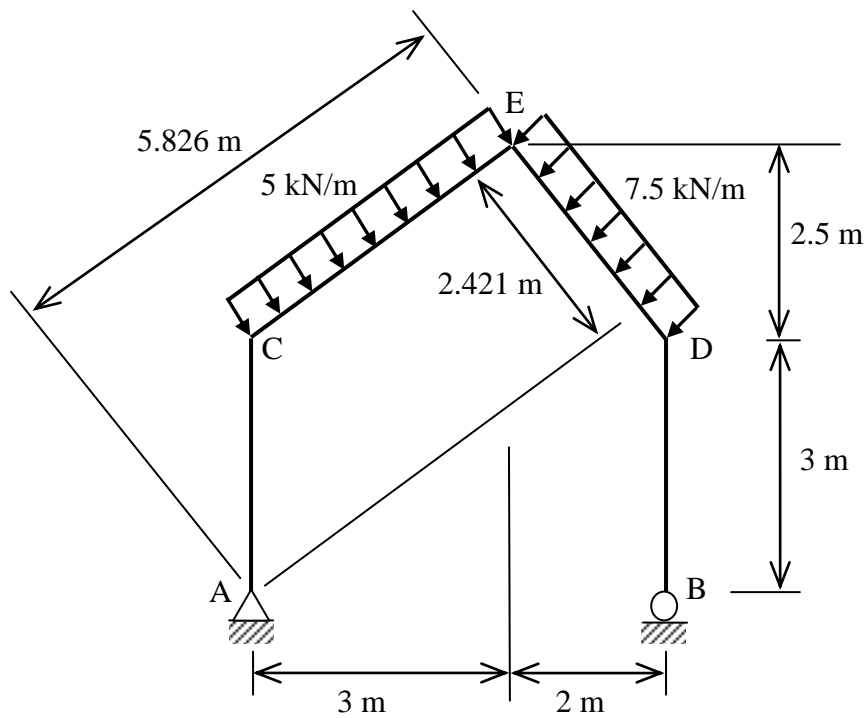

Figure 7/Rajah 7
6. (a) Use the virtual work method to determine the vertical deflection at joint E of the frame shown in **Figure 7**.